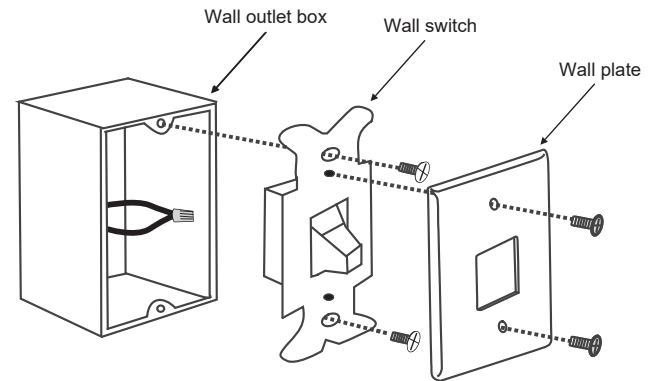

Fig. 23
Step 1. Remove the pre-existing wall plate and wall switch from pre-existing wall outlet box. Disconnect wires from switch. Wire nut the BLACK leads (hot) together, and push wires back inside the wall outlet box (**Fig. 23**). Or select a desired location with a new outlet box.